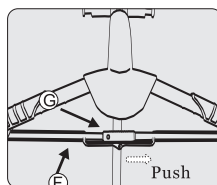

Figure 13
5. Lock the sleeve(G) in place by aligning the dots on the bar(F).(Figure 13)